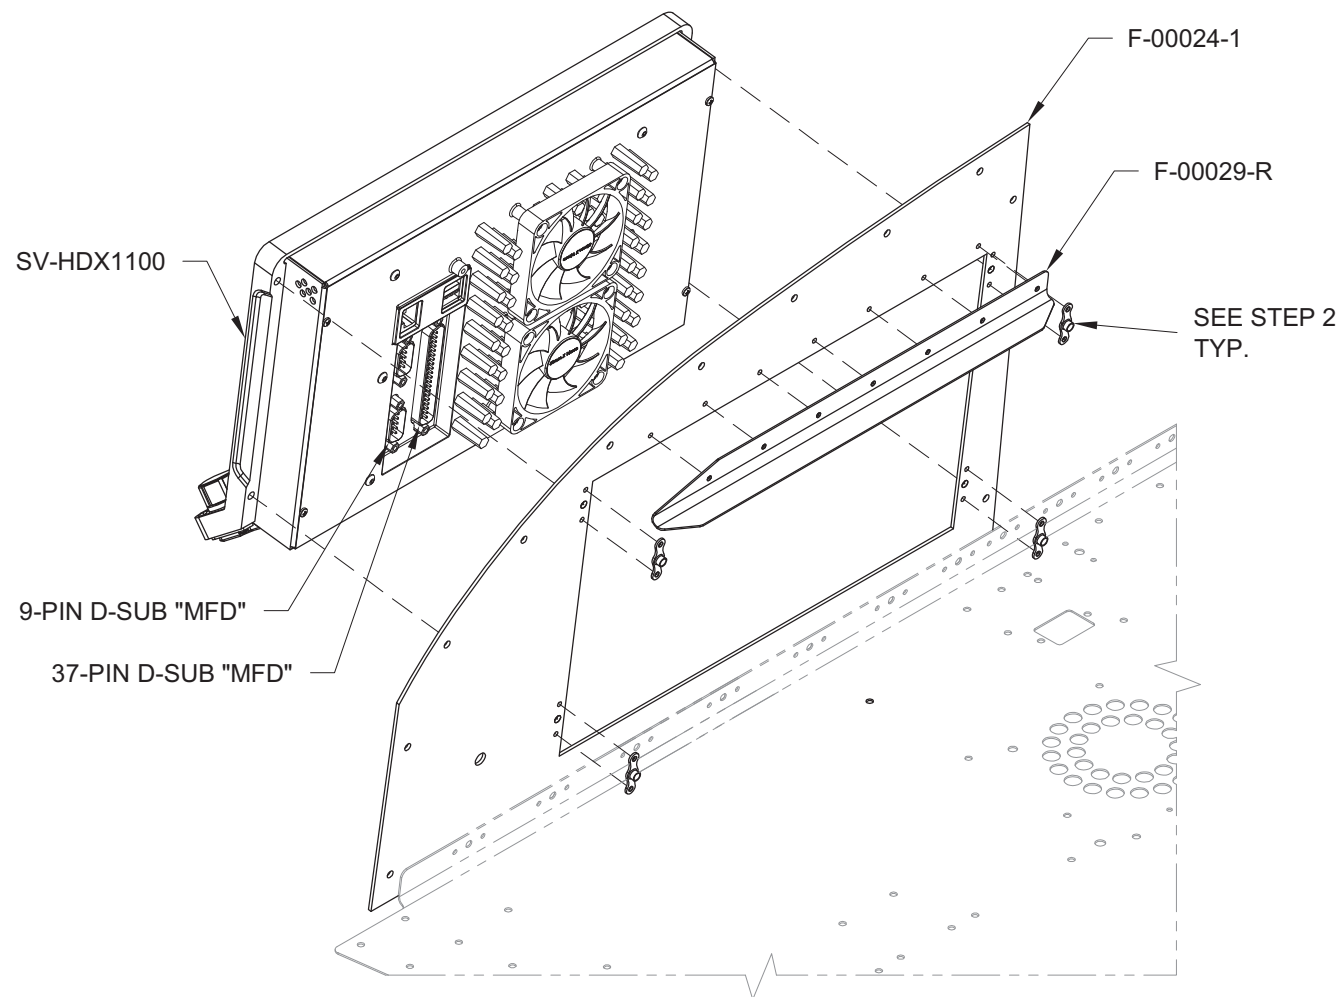

FIGURE 2: INSTALL STIFFENER AND NUTPLATES
Step 2: Refer to Section 42CiS for attaching the nutplates and reinforcing angle shown in Figure 2.
Step 4: Remove the tie-wrap installed on 42CiS/U-12. Connect the WH-00133 RV-12iS Dynon Common Harness 37-pin d-sub, 9-pin d-sub, and network cable all labeled "MFD" to the SV-HDX1100. See Figure 2.